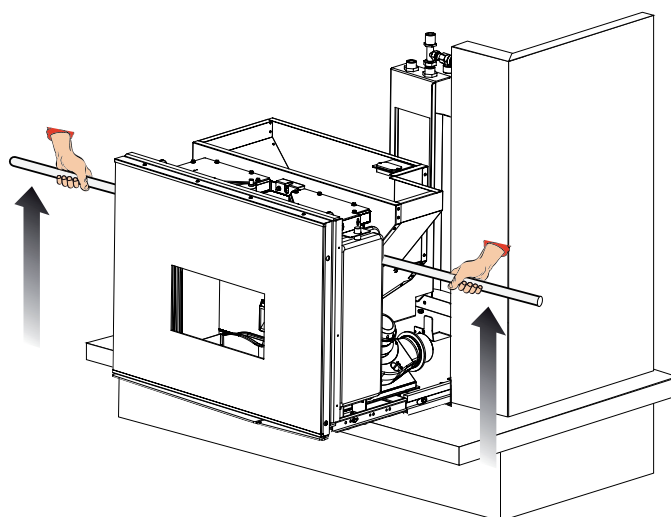

Fig. 6.6
- push the stove into its seat until you are sure the automatic locking mechanism has engaged (fig.6.6)